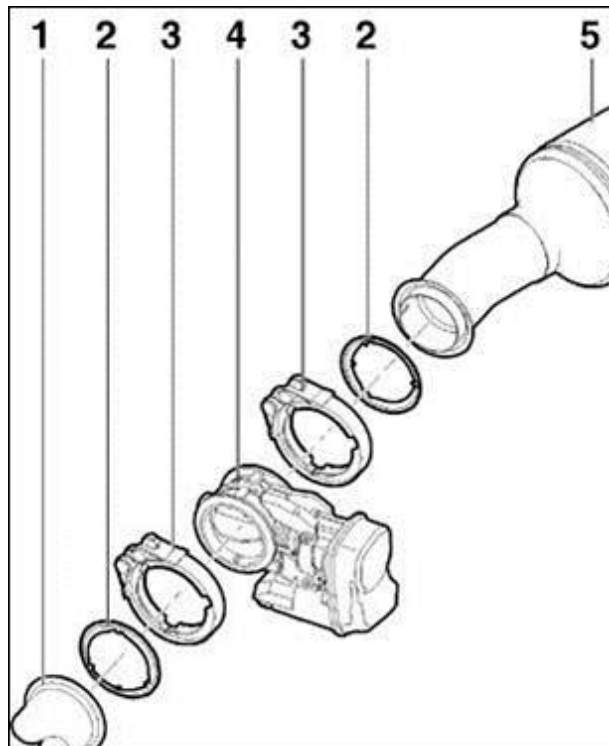

Figure 1. Exhaust flap
1. If one or more of the above faults are stored in the ECM fault memory, remove the exhaust flap to check for a sticking condition (Figure 1, 4)